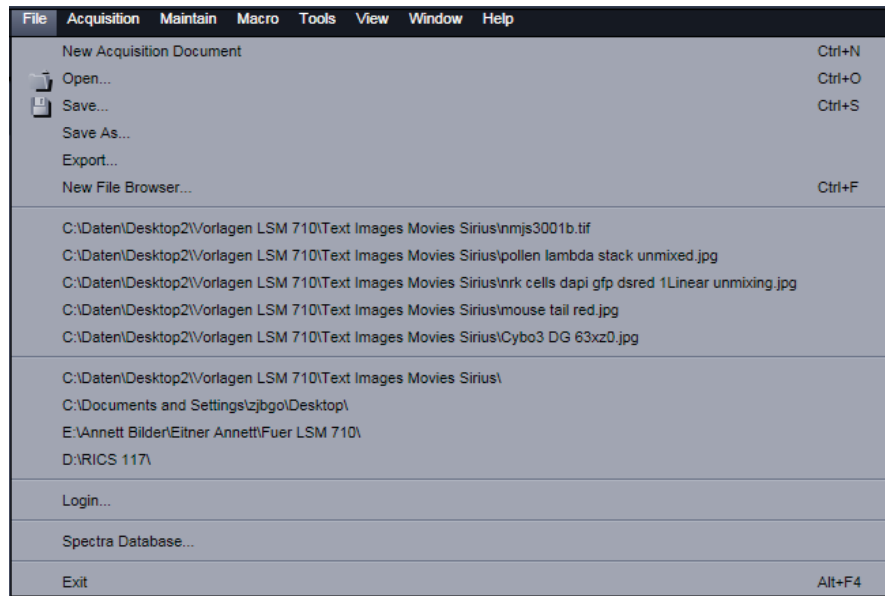

Fig. 4-252 File menu
- This displays the menu shown in Fig. 4-252.